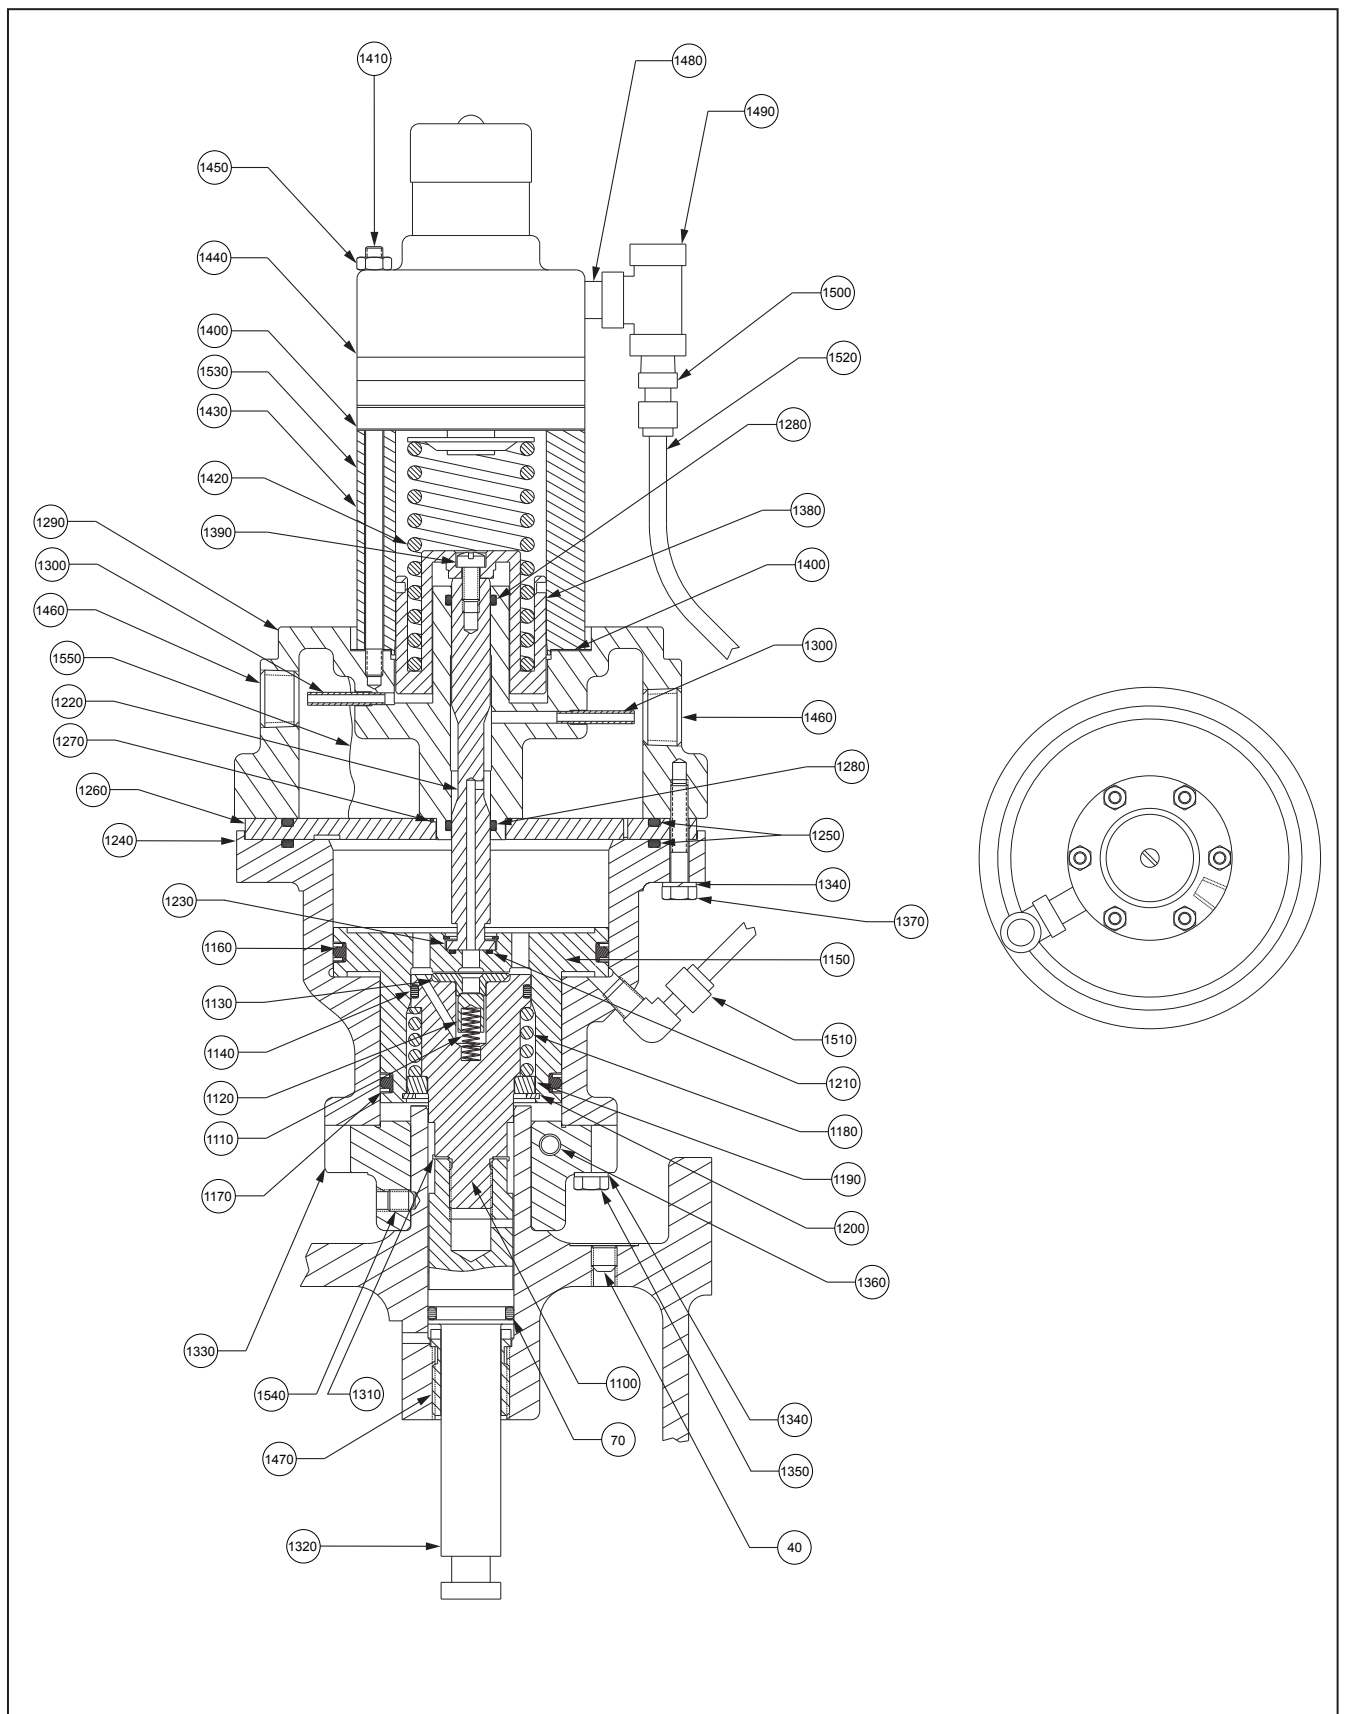

Figure 1. Milroyal® B Pneumatic Capacity Control (Drw-102209500020).
2. Pressure tee fitting. Remove the nuts (1450) from the mounting stud (1410). The Moore Products Valve Positioner and the transparent cylinder (1430) can now be removed from the mounting studs. Before the transparent cylinder is slipped OFF (see *Figure 1*), the range spring and spring seat (1420) should be taken out.